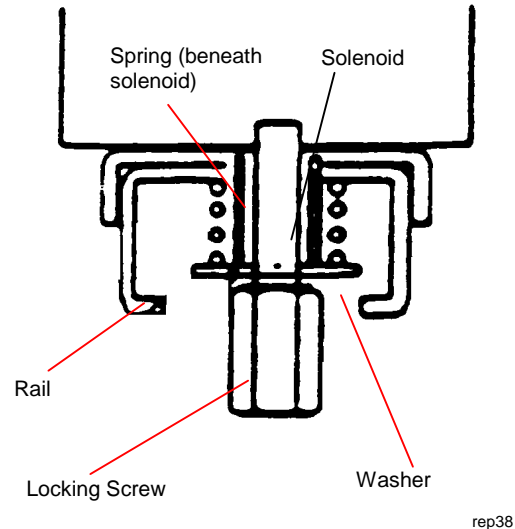

Figure 1. Removing the Fixing Screw
2. (Figure 1): Remove the Locking Screw and hardware from underneath the Cutter Assembly (outboard end).